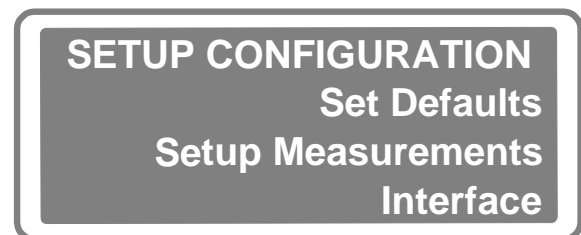

Figure 10. Initial Setup Display
1. Press the **SETUP** key while viewing Results Data to bring up the **SETUP CONFIGURATION** menu. See Figure 10.